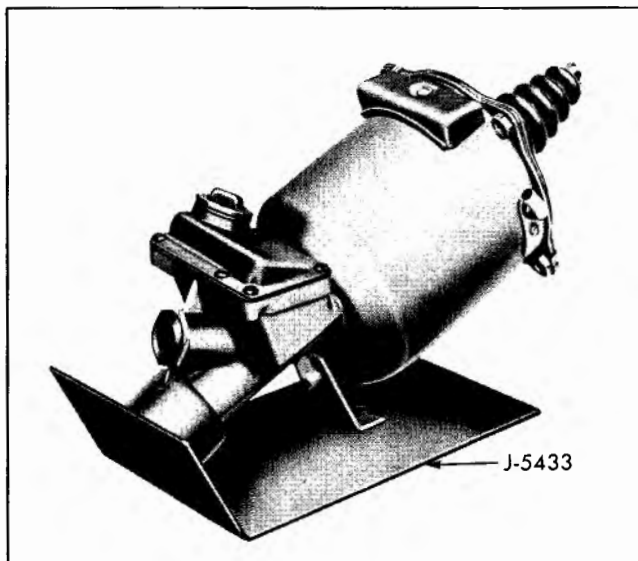

Fig. 5-17 Power Brake Unit in Holding Fixture
The Bendix power brake unit can be identified by the die-cast hydraulic cylinder and pressed steel filler cap (Fig. 5-17). The Moraine power brake unit can be identified by the cast iron master cylinder and cast iron filler cap (Fig. 5-40) and the thin "dipped" rubber boot.
2. Mount unit in holding fixture J-5433 (Fig. 5-17). If holding fixture is not available, clamp hydraulic cylinder in vise.
With master cylinder in vise, assemble nylon washer (14) and rubber membrane (15) at end of hydraulic plunger (13) see inset upper left. Insert membrane end of plunger (12) in cylinder and assemble seal parts with seal installer J-5405 (inset of Fig. 5-17) over end of plunger as follows: cup retainer (11), with counterbored side away from washer on plunger; cup (10), fibre washer (9), and steel washer (8). Slide seal parts into recess of cylinder, push plunger in to end of its stroke and assemble retainer ring (7) in ring groove. Assemble compensating valve (5) in threaded hole of cylinder and securely tighten (use